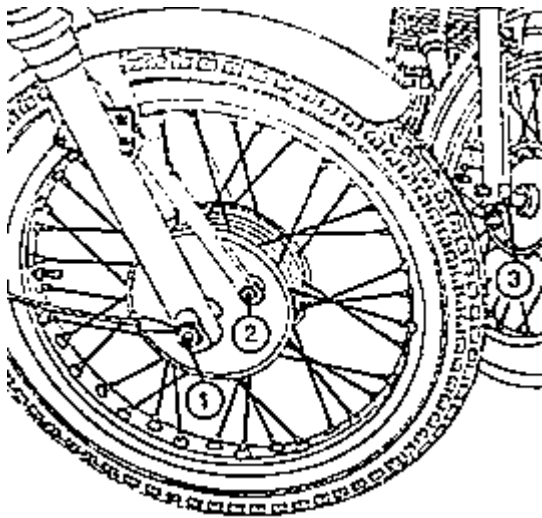

Fig. 24. Removing the front wheel (drum broke)
Remove the wheel according to the sequence of numbers indicating the operations (Fig. 24). When having pulled out the axle, place it on the tool bag.
First tighten the axle nut (1), apply the hand brake and deflect the telescopic fork springs by hand, and then tighten the clamping screw (3) (Fig. 24).